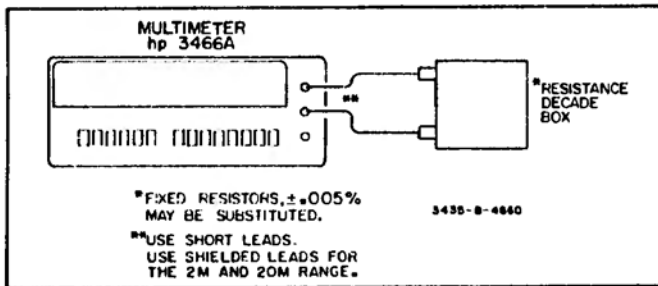

Figure 4-8. Ohms Accuracy Test
b. Connect the Resistor Decade Box to the 3466A as shown in Figure 4-8.